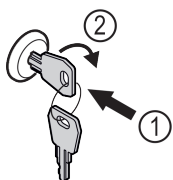

Fig. 170 Example illustration
- Insert key Fig. 170 (1).
- Turn key clockwise by 90° Fig. 170 (2).